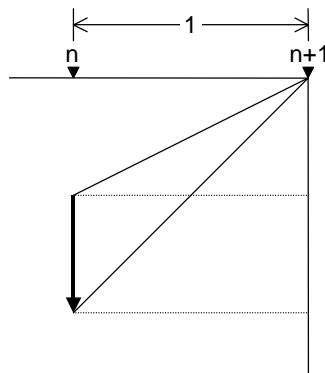

Fig. 2.3
- (3) Fig. 2.3 contains a machine position that is placed in the negative direction with respect to the reference position. Assume that feed from division point n+1 to n by the division interval is executed. In this case, the following value is defined as the compensation amount: